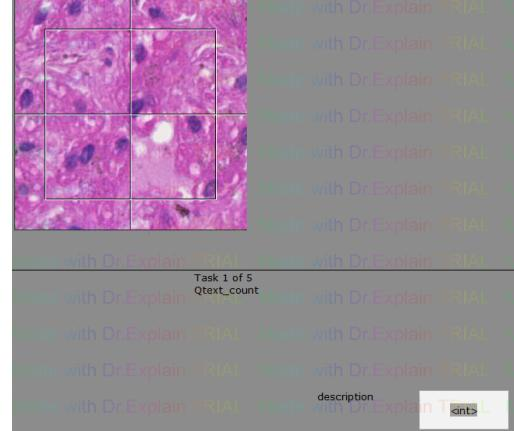

Figure 2
1. Enter the number of cells that appear to accommodate the description (Figure 2)